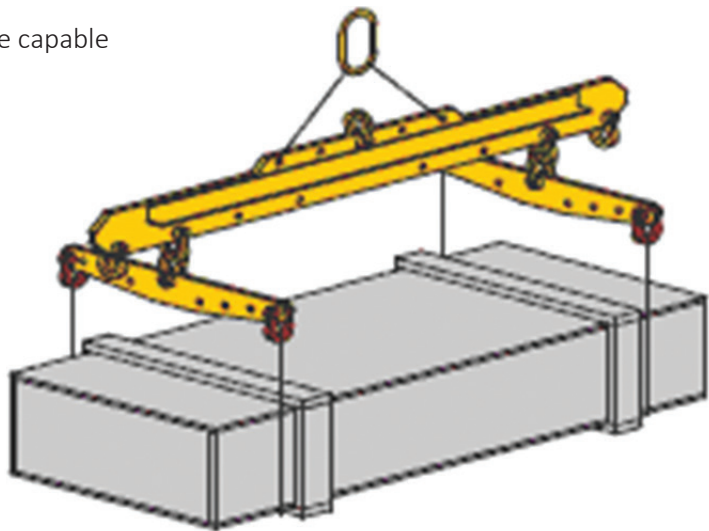

Figure 1. Spreader Bar
- ▶ Spreader bar usage/positioning, shown in Figure 1, is only an example! Determine spreader bar set up (configuration, cables location/positioning etc.) based on the particular equipment to be lifted.